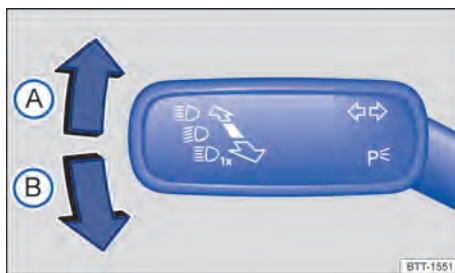

Fig. 90 On the left-hand side of the steering column: direction indicator and high beam lever.
2. Move the direction indicator and high beam lever from the centre position to the required position → Fig. 90.